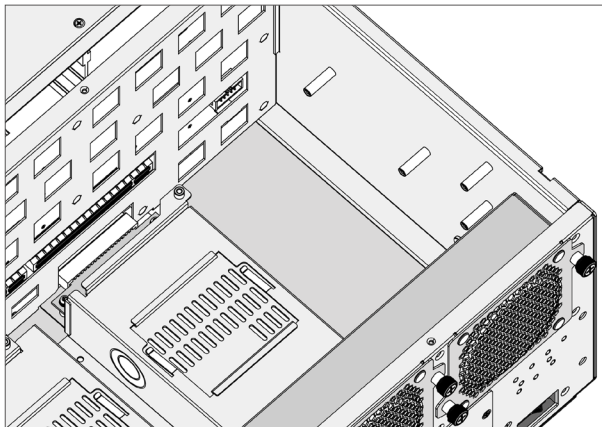

Figure B-8, Removing the Cover
1. Loosen the screws and remove the cover from the ARC-7324 enclosure, as shown in Figure B-8.